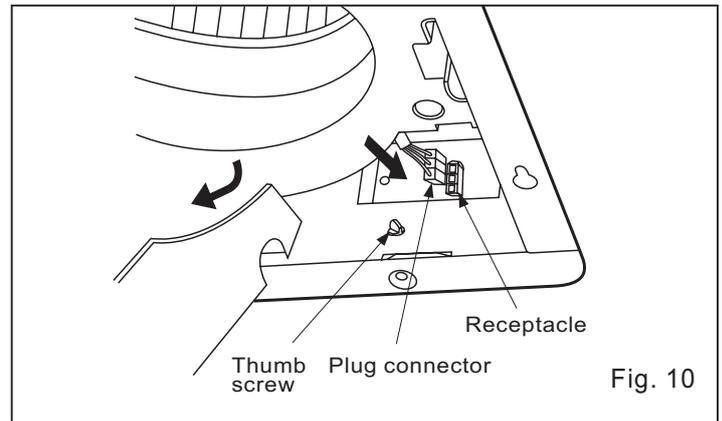
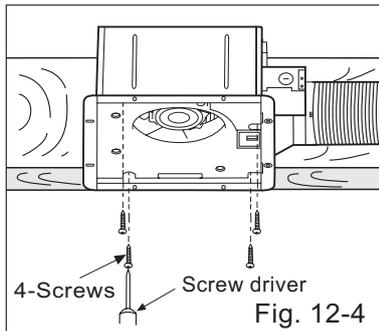

Fig. 10
Fig. 12-4
6. Open the orifice cover, secure the fan body to adaptor by using thumb screw and plug connector to receptacle (Fig. 10)
5. Secure the adaptor to fan body by using thumb screw. (Fig. 10)
8. Secure the blower. (Fig. 12-4) and plug connector to receptacle (Fig. 10)